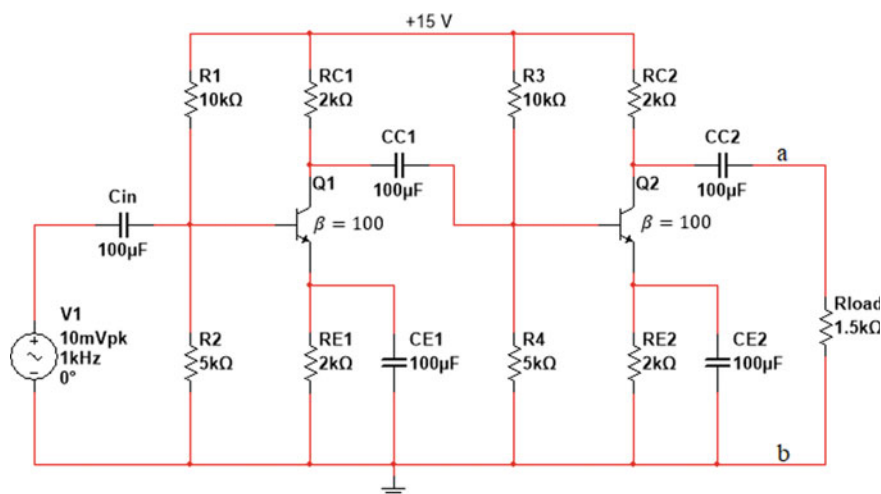

Fig. 2.302 Circuit for Exercise 4
4. Assume the amplifier shown in Fig. 2.302.
5. Assume that both transistors in Fig. 2.302 are 2N2222. Use Proteus to draw the: